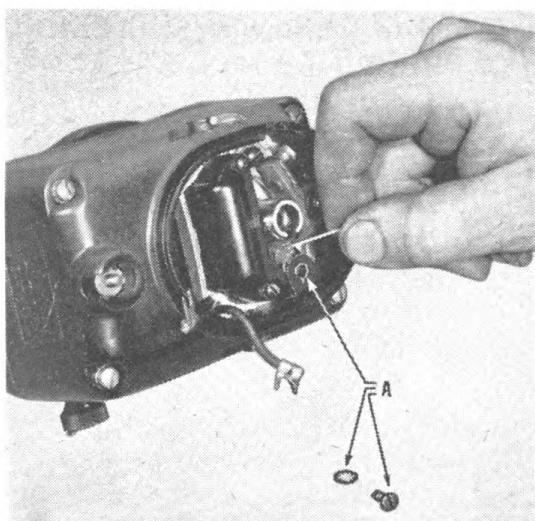
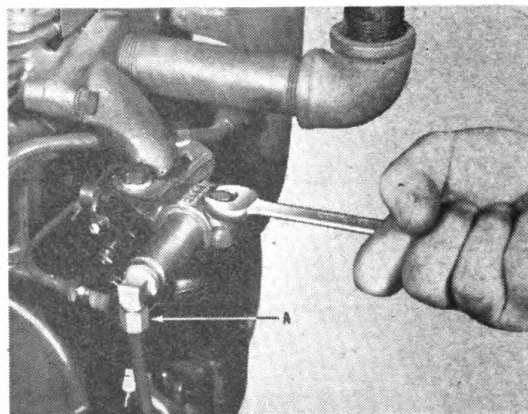
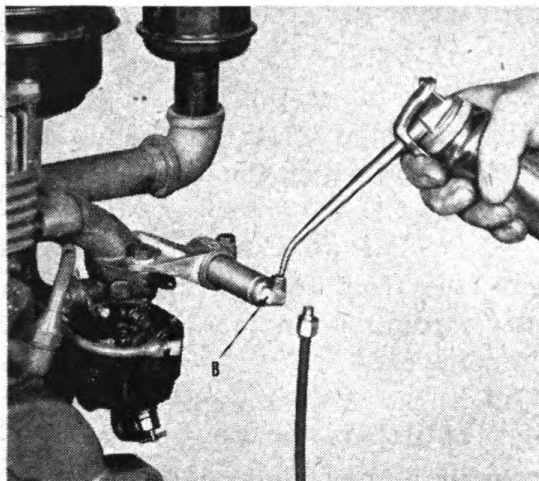

Figure 31
Figure 32
Figure 33
(4) Remove breaker arm spring terminal screw and lock washer (See "A" Figure 31).
(5) Remove oil pad with a large pin or similar object (See Figure 31). Lubricate pad by squeezing and working S.A.E. 90 Gear Lubricant into it.
(6) Replace pad and breaker arm spring terminal screw (Refer to Section G-1-b, Page 14).
e. On engines with type of automatic throttle shown in Figures 32 and 33, it is advisable to lubricate the cup leathers inside the throttle after every 1024 hours of service to prevent them from becoming hardened. To do this proceed as follows:
(1) Detach tubing from automatic throttle at "A" Figure 32.
(2) Loosen cylinder bracket screw (See Figure 32) and turn cylinder so that elbow ("B" Figure 33) is upright.
(3) Inject about 10 drops of light oil (preferably Neatsfoot Oil) inside throttle through elbow (See Figure 33) and move plunger in and out several times to work oil into leathers.
(4) Turn cylinder back to its original position, making sure that it is not moved in or out of bracket. Then tighten screw (See Figure 32).
(5) Attach tubing to elbow at automatic throttle inlet.